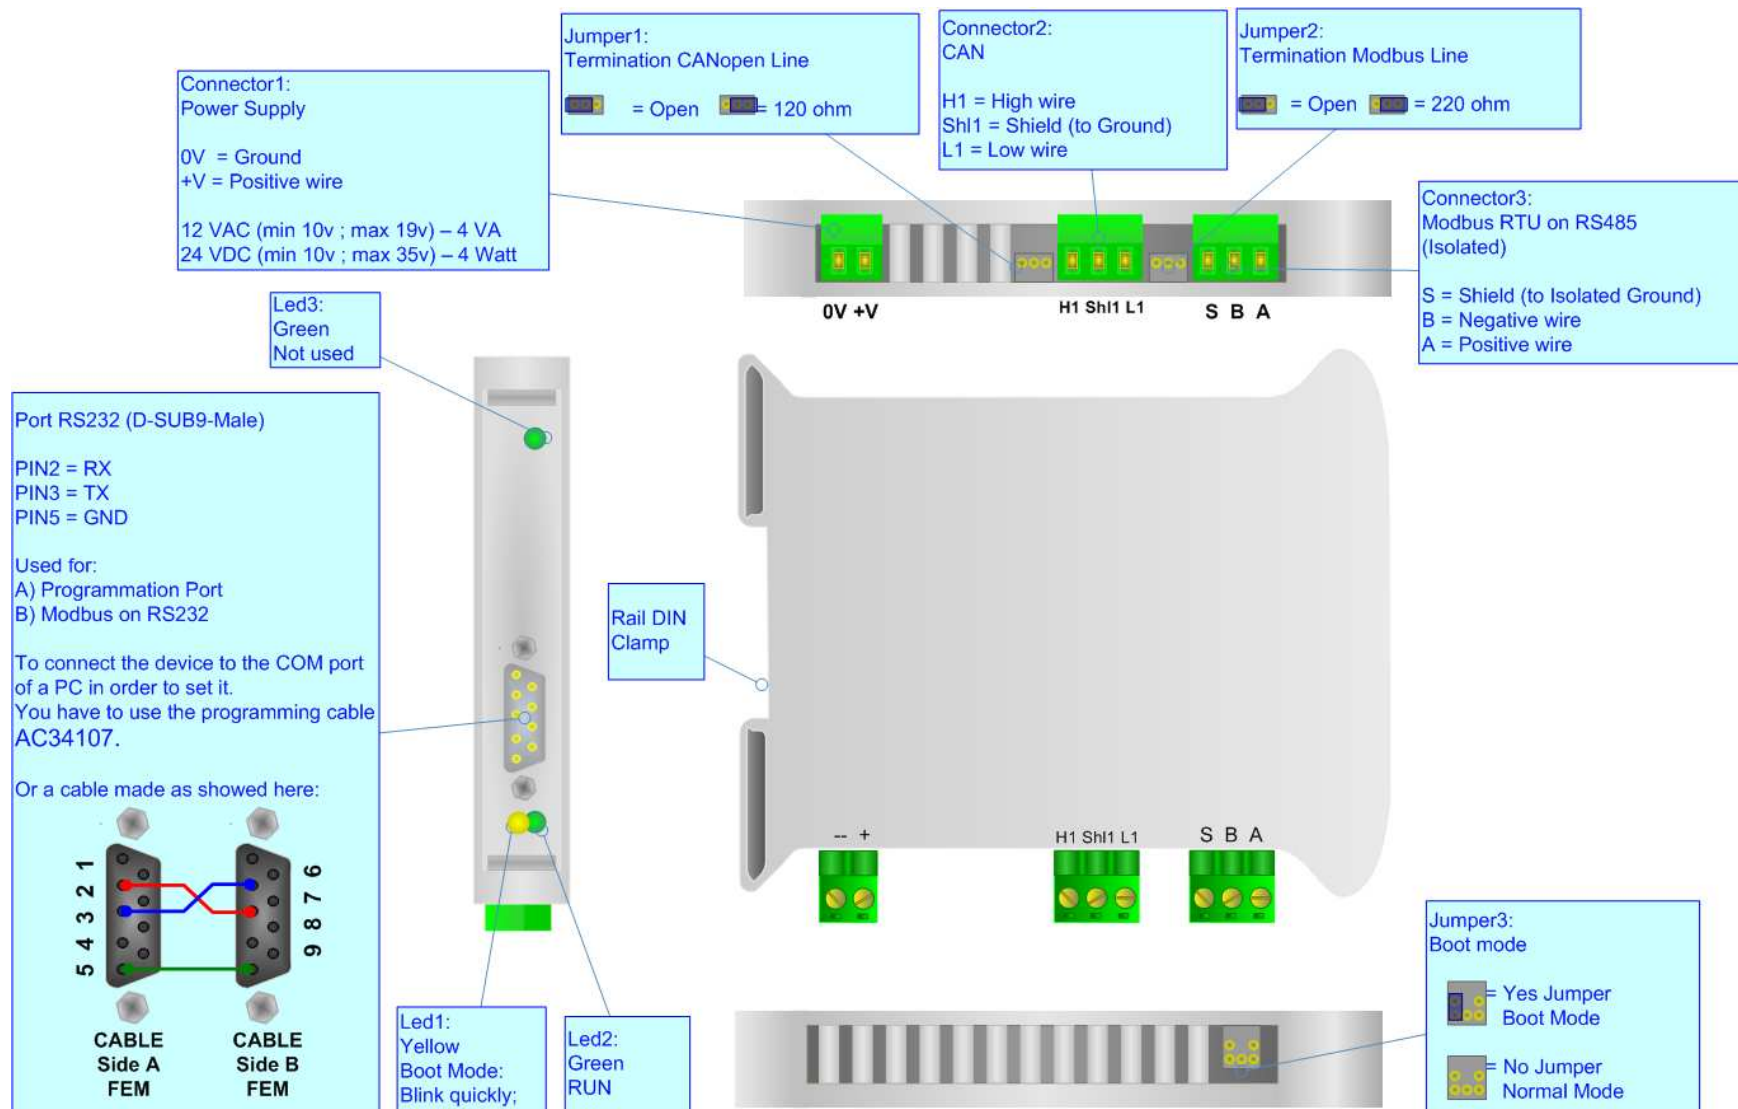

Figure 1: Connection scheme for HD67011
- Insert the Boot Jumper (See the Fig. 1 for more info);